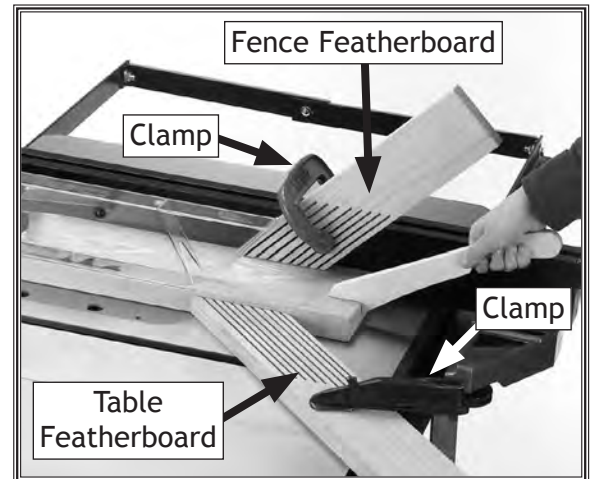

Figure 100. Example photo of featherboards mounted with clamps.
4. Place a featherboard on the table so all fingers point forward and contact the workpiece evenly (see **Figure 100** for an example).
7. Mount a second featherboard to the fence with another clamp, then repeat **Step 6** to ensure it is secure (see **Figure 100**).